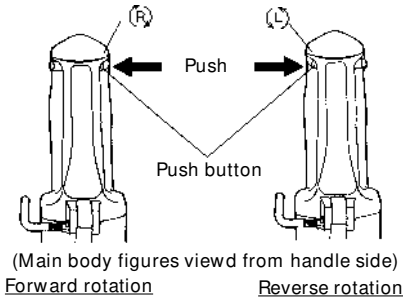

Fig. 19
- The bit rotates clockwise (viewed from the rear side) by pushing the R-side of the push button. The L-side of the push button is pushed to turn the bit counterclockwise. (See Fig. 19).